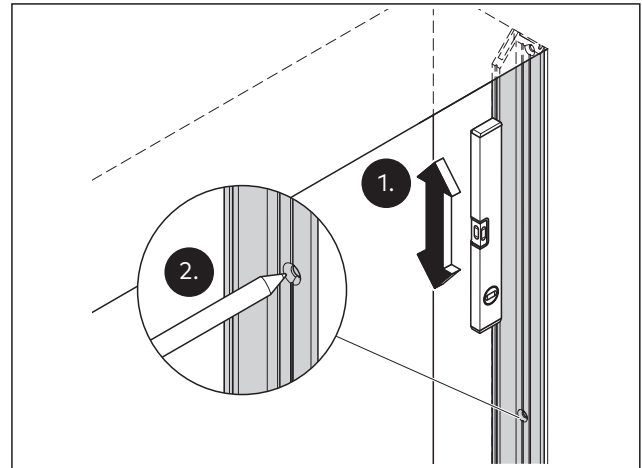

Fig. 22 Mark the drill holes of the door frame adapter profile on the floor
1. Align the door frame adapter profile vertically in the passage according to the approval drawing (Fig. 22).